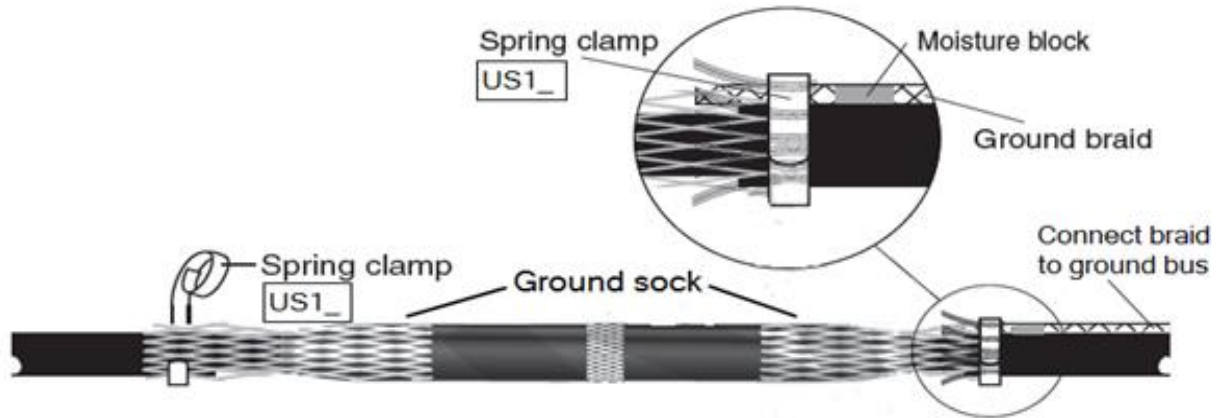

Figure 22
- Roll out the ground sock on each side of the splice. Lay the ground sock over the metallic shield end of the cables and connect with spring clamps included in the splice kit. Connect copper braid to system ground. Refer to Figure 22.